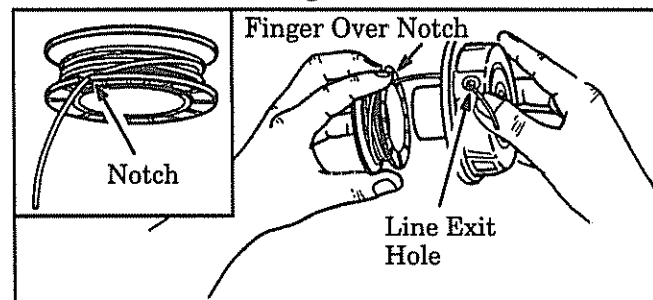

Figure 13
- e. Catch the line in the notch in the spool. Figure 13 (inset). Leave about 4" (10 cm) of line hanging from the spool.
- f. Place your index finger over the line and notch as shown in Figure 13 . Insert the end of the line in the line exit hole. Figure 13 .
- g. Align the line and notch with the line exit hole. Figure 13 . Place spool in hub. Make sure the trimmer line is not caught between the rim of the spool and the hub.